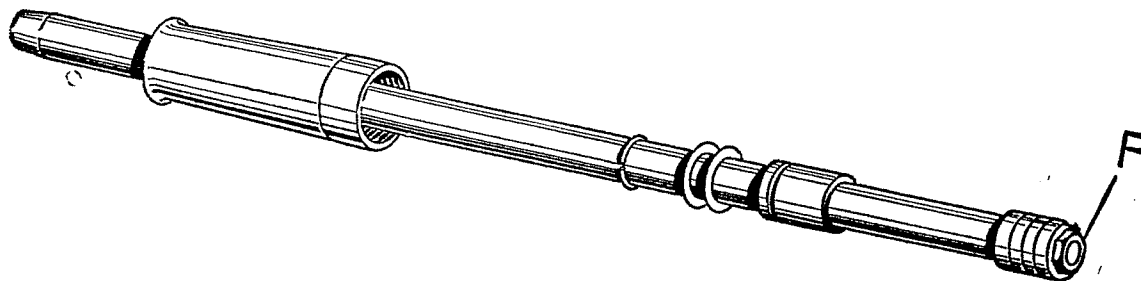

Fig. X4.
Grip the shaft in a vice using soft-jaw clamps on the unground portion of the shaft and unscrew the gland nut (F) Fig. X4. Service tool part number 61-3003 is designed for this purpose. Remove the gland nut which secures the lower bearing and both bearings, shims, circlip and oil seal holder will then slide off the shaft.